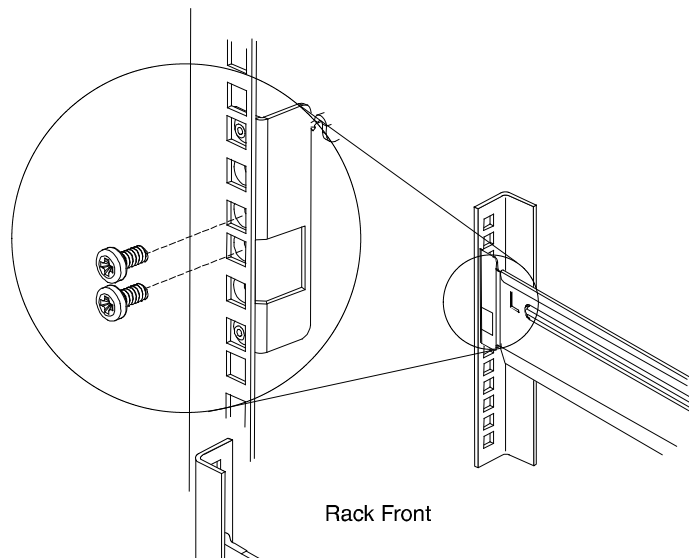

Figure 8. Attaching the Fronts of the Rails
8. Secure each rail to the front of the rack with two M5×16 mm screws. Verify that the rails are on the inside of the rack-cabinet mounting flanges, and that the **L** (Left) or **R** (Right) letter on each rail faces inside the rack. See Figure 8.